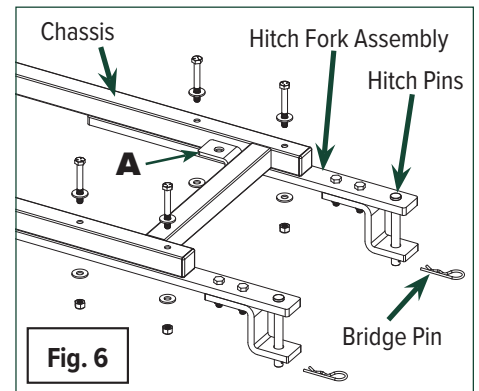

Fig. 6
5. (Fig. 6) Attach the two hitch forks to the front (the narrow end) of the chassis as shown. Place each hitch fork under the chassis and secure using two 2" bolts, washers and lock nuts provided.